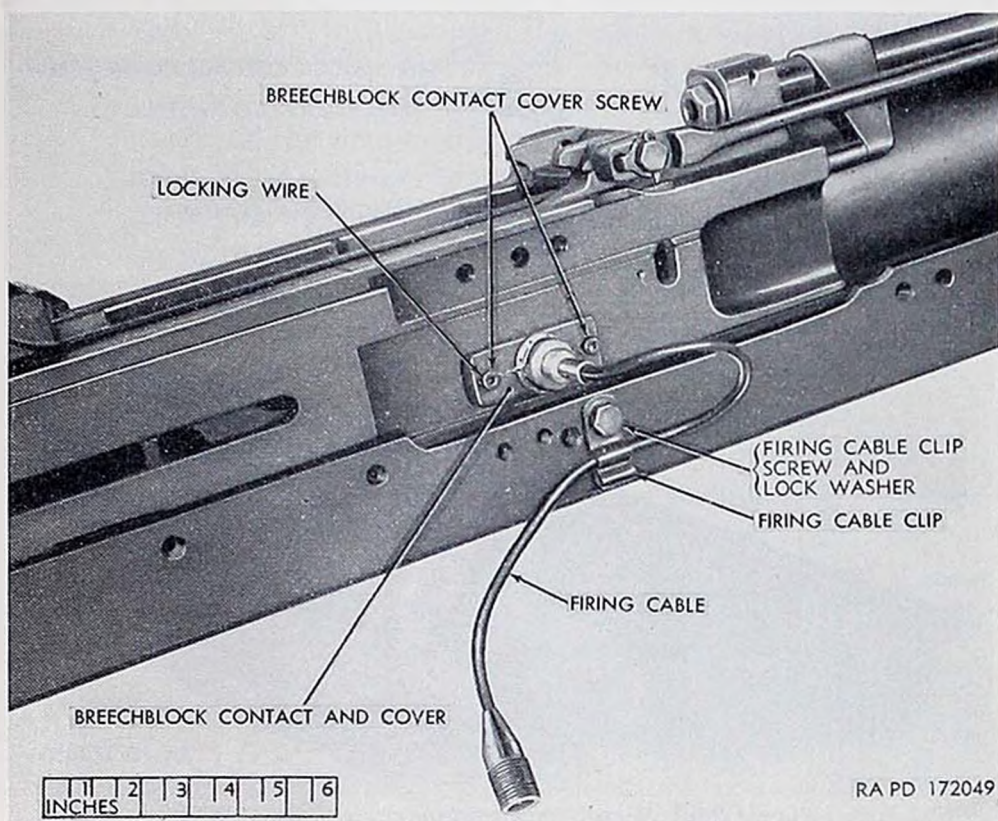

Figure 99. Removing breechblock contact parts—gun M24A1.
- (1) Remove locking wire that secures the breechblock contact cover screw to the firing cable (fig. 99).
- (2) Remove firing cable clip screw and lock washer to remove firing cable (fig. 99).
- (3) Connect the firing cable to receptacle and secure the connector of the firing cable and the two breechblock contact cover screws with locking wire (fig. 99).
- (4) Adjust cable slack to permit a recoil of $1\frac{1}{8}$ inches and secure the firing cable clip to the receiver with the firing cable clip screw and lock washer (fig. 99).